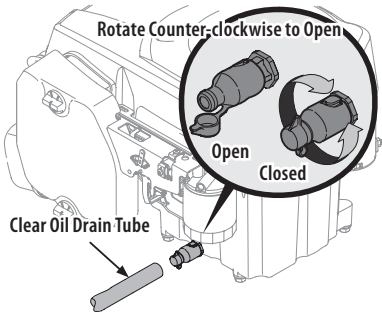

Figure 33
4. Open the protective cap on the end of the oil drain valve to expose the drain port (Figure 33).